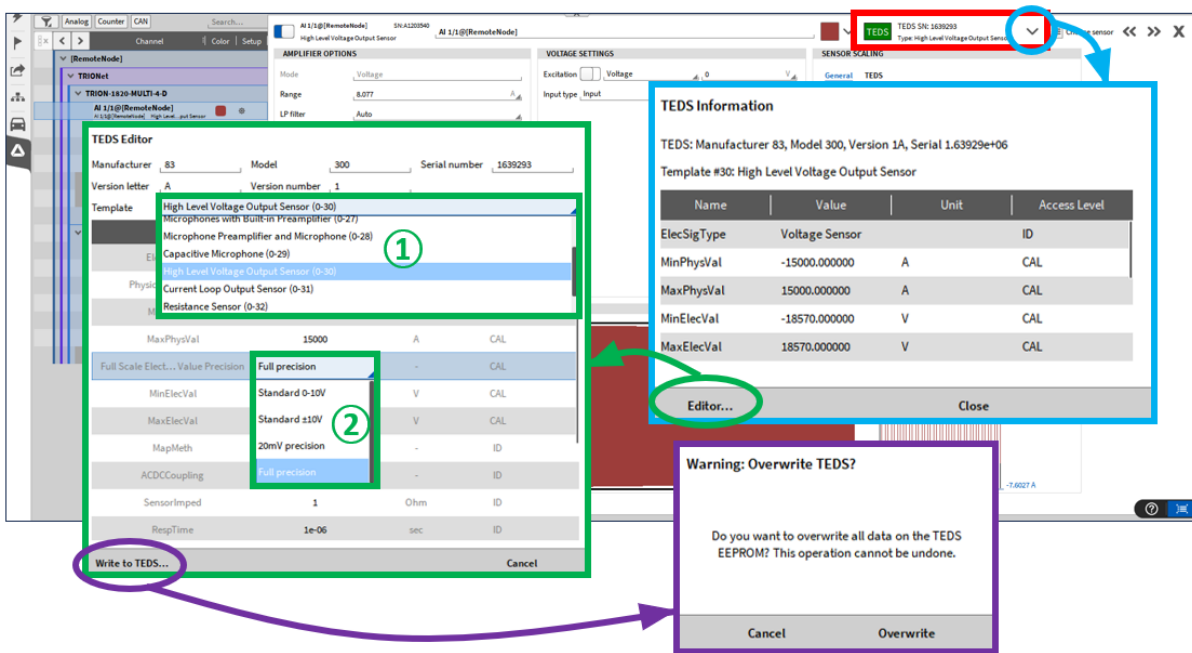

Fig. 7.219: Detailed Channel Settings with TEDES interface and TEDES editor
A detailed channel setting can be seen in Fig. 7.219. Depending on the type of sensor some settings might vary. The settings from the TEDS can be seen here and some settings can be adjusted manually, like the range. By clicking on the shown TEDS serial number, marked red in Fig. 7.219, all the TEDS information and settings can be seen (see blue frame in Fig. 7.219).
By clicking on “Editor” (see green circle in Fig. 7.219) the TEDS editor can be opened (see green frame) which offers the possibility to edit the stored data on the TEDS chip. It is possible to choose between a set of templates (see ① in Fig. 7.219) or to change the information stored on the TEDS chip manually (see ② in Fig. 7.219). When all changes are finished the information can be written to the TEDS chip, by clicking on “Write to TEDS” (see purple circle in Fig. 7.219). A window will pop up which asks for confirmation that the data should be written to the TEDS chip.
TEDS detection can also be disabled in the detailed settings by clicking on the green TEDS button (marked green in Fig. 7.219). This button has different colors depending on the state, which will be explained here: